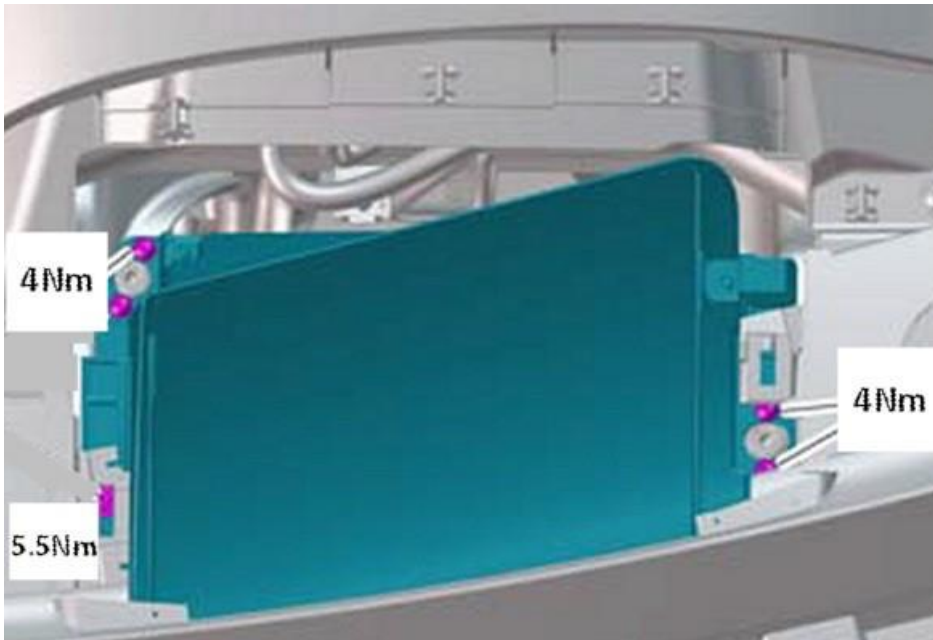

Figure 3
Referring to Figure 3 – Check and confirm the torque of the (5) fixings as shown